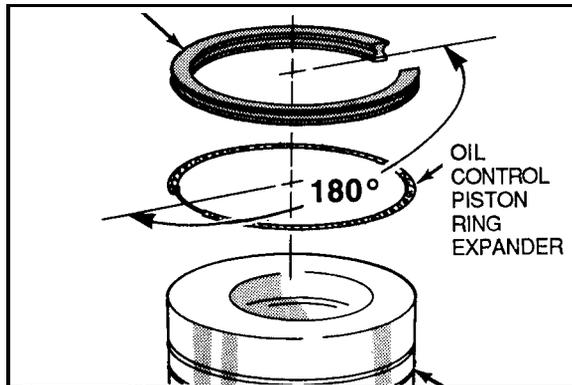
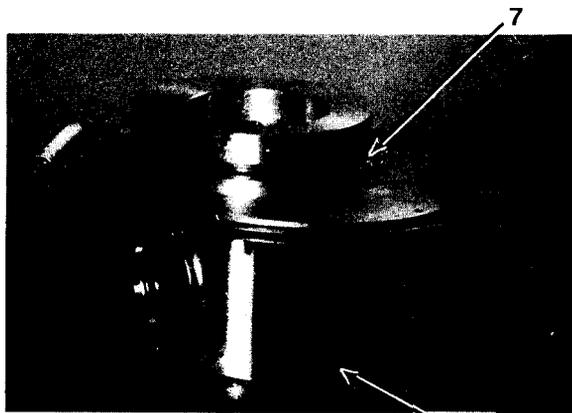
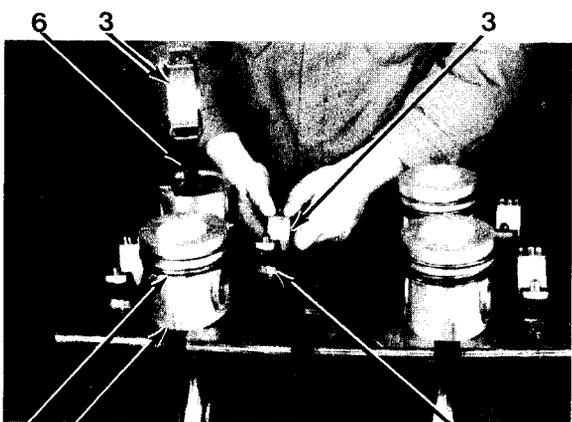
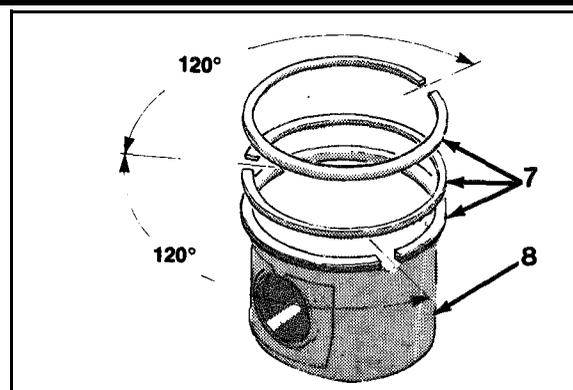

Figure 6-21 8
Figure 6-22 8
Figure 6-23 2
Figure 6-24
9. Position oil control piston ring expander in inner groove of one of three piston rings (7, Figure 6-21).
10. Install one of three piston rings (7) on piston (8) with end gap 180 degrees from end of oil control ring piston expander,
11. Install intermediate one of three piston rings (7) on piston (8, Figure 6-22).
12. Install top remaining one of three piston rings (7) on piston (8).
13. Install one of two bearing halves (3) in connecting rod (6) and remaining bearing half (3) in connecting rod cap (2, Figure 6-23). Make sure tang on two bearing halves (3) is in slot of connecting rod (6) and connecting rod cap (2).
14. Lubricate two bearing halves (3) with light film of lubricating oil DOD-L-25681.
15. Lubricate three piston rings (7) and piston (8) with engine oil.
16. Position gaps of three piston rings (7) on piston (8, Figure 6-24) as shown.